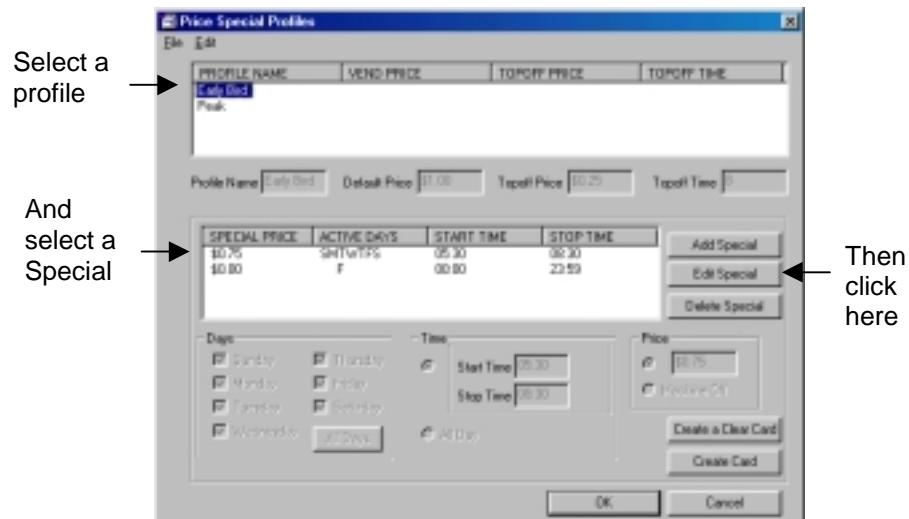

Figure 8.23 Editing a Special
1. Select a Profile containing the Special to edit from the Profiles List Window (Figure 8.23).
2. Select the Special to edit (Figure 8.23).
3. Click the Edit Special button (Figure 8.23).